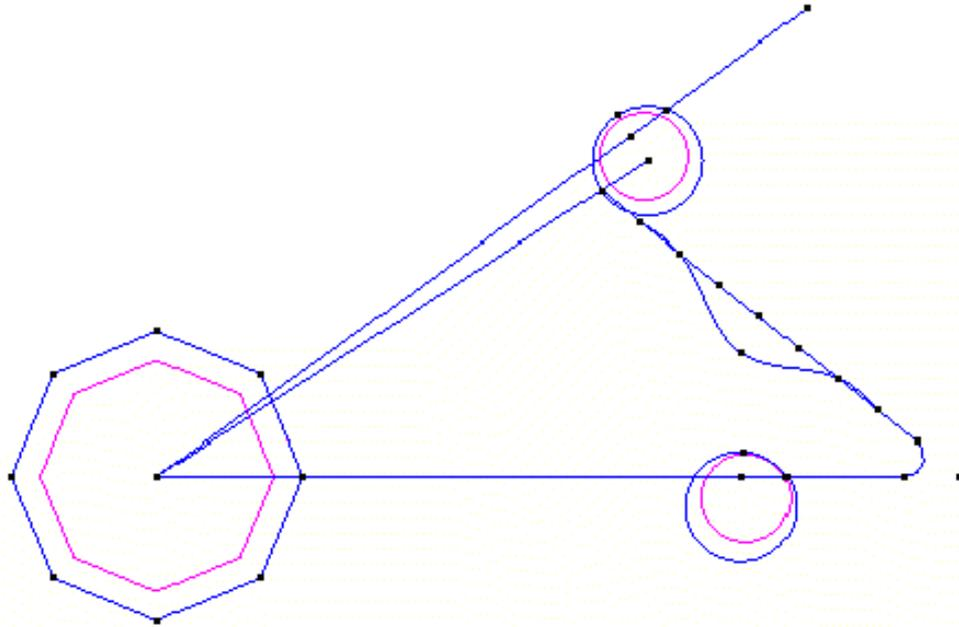

Figure 40. Optimizing the design
- 11 . Before selecting the last point, choose **Last Point** in the **Contextual** menu. Then finish the NURBS line. The result is shown in Figure 40.